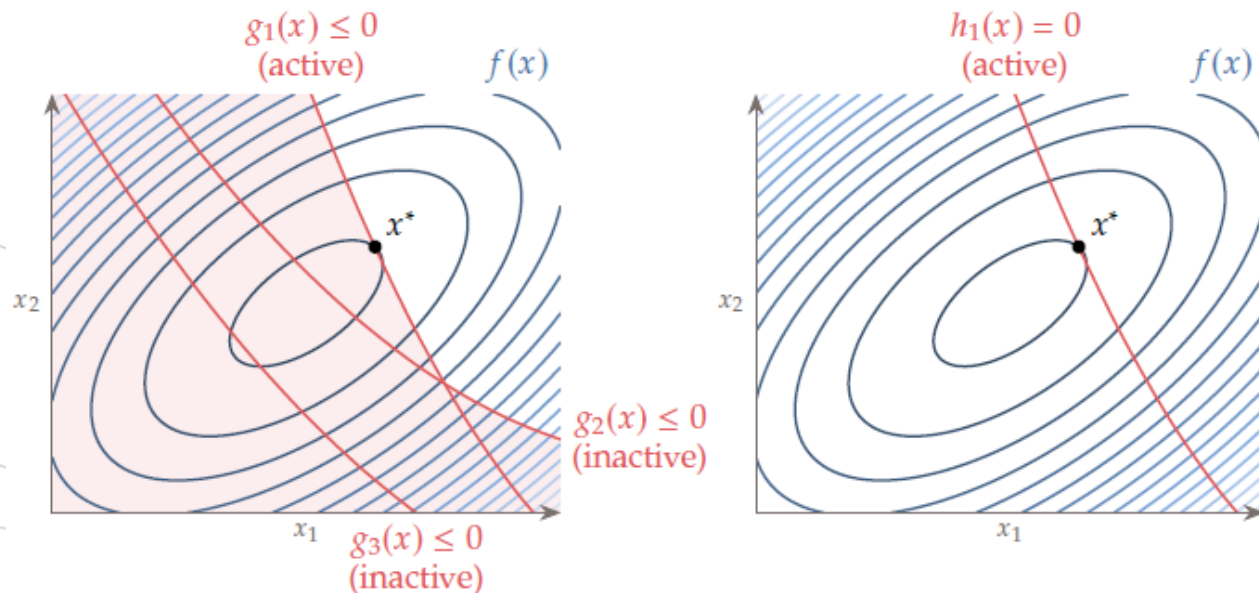

Figure 1.10 Two-dimensional problem with two inactive and one active constraint.
- If a constraint is inactive at the optimum, this constraint could have been removed from the problem with no change in its solution, as illustrated in Fig. 1.10.